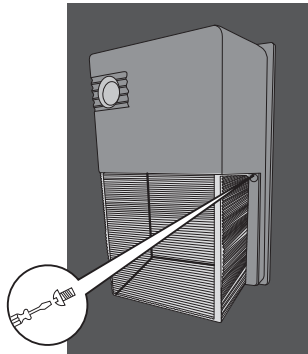

Figure 1
2. Unscrew it and take off the cover. (Figure 1)